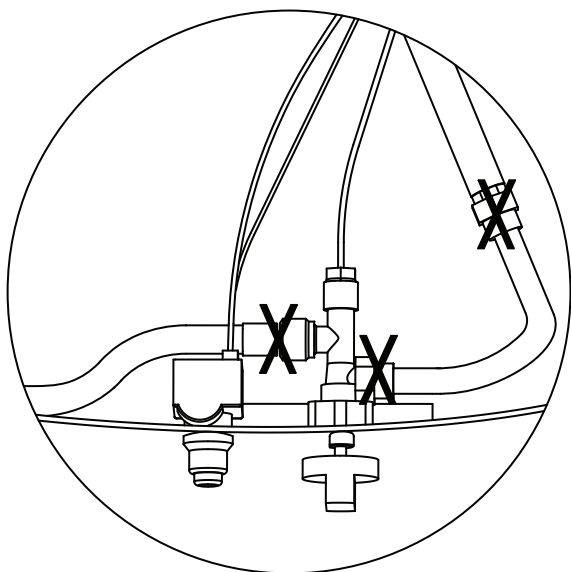

Figure 1
- Please refer to diagram for proper installation Figures 1 and 2.
- Spoon several drops of solution, or use a squirt bottle, at all “X” loctions (figure 1 and 2 on the previous page).